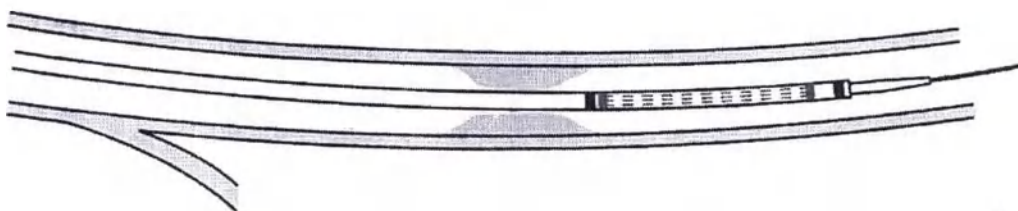

Fig. 4
5. Under fluoroscopy, advance the delivery system over the 0.89 mm (0.035 inch) wire guide through the introducer sheath until the distal gold radiopaque markers on the stent are beyond the target lesion site (**Figure 4**).